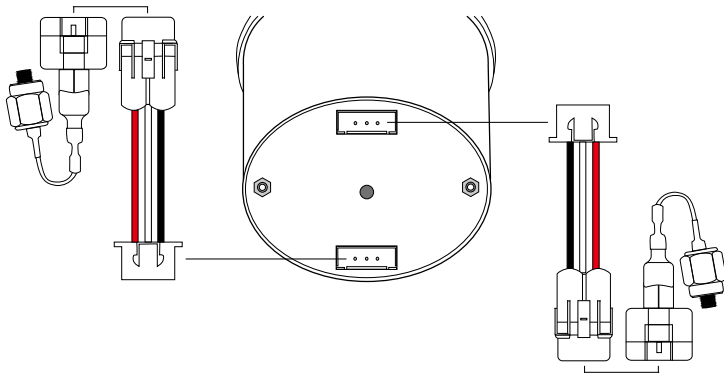

Figure 2.
This gauge is designed for measuring dual air pressures in three digits of RED LED display (**0-10 BAR**), which helps to minimize the space for display and for easier monitoring the readouts. The two sets of pressure sensors are also designed for easy installation into rear of the gauge (**Figure 2.**). This gauge also features dim function in order to provide comfortable reading when head light is on.
5. Plug two sensors wiring harness to upper and bottom plug on rear of the gauge. Connect female and male sensor plug together. **Note:** In case of any abnormal situation occurred, please ensure the sensor wire's plug (sensor_u and sensor_d) are securely connected into the rear of the meter. Please see the enclosed diagram (**Figure 2.**) for reference.